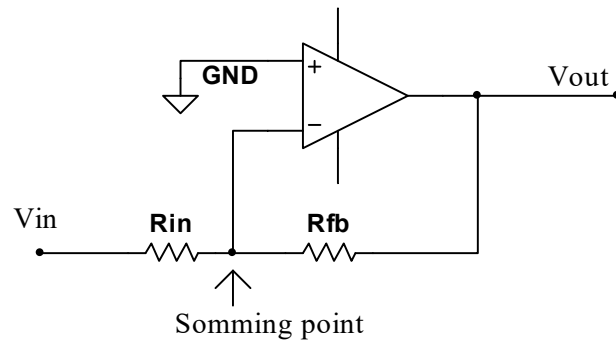

Figure 5.12 Inverting amplifier using op-amp
- Figure 5.12 shows what is known as the inverting configuration. With this circuit, the phase difference between input and output is  $180^\circ$ .